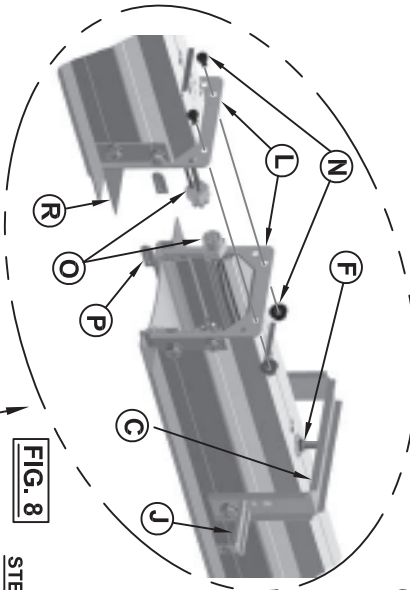
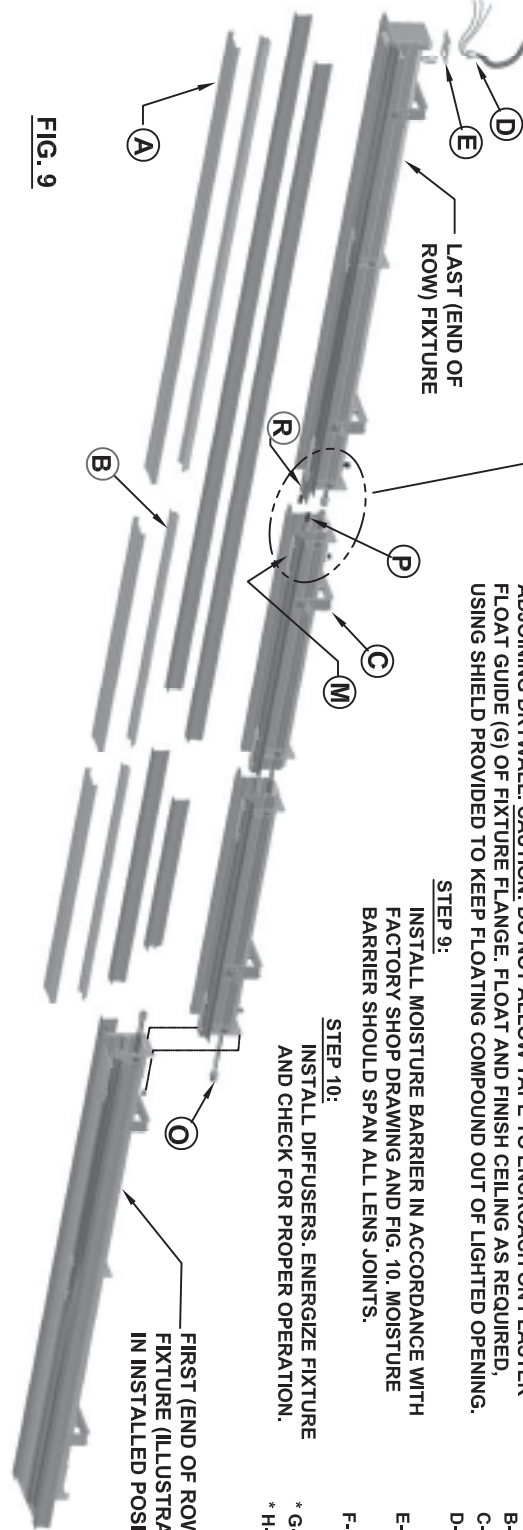

FIG. 8
FIG. 9
- STEP 3: MOUNT NEXT FIXTURE IN A SIMILAR FASHION AS FIRST FIXTURE SUCH THAT THE ALIGNMENT TABS (P) FIT INTO THE FIRST FIXTURE. MAKE CONNECTION OF THE WIRE HARNESS (O) AND PUSH EXCESS WIRE BACK INTO FIXTURE. SLIDE FIXTURES TOGETHER, MAKING SURE THAT WIRE IS NOT PINCHED BETWEEN JOINT, AND BOLT FIXTURES TOGETHER WITH NUTS AND BOLTS (N) SUPPLIED. (REF. FIG. 8)
- STEP 4: REPEAT STEP (3) AS REQUIRED TO COMPLETE ROW AS INDICATED ON FACTORY SHOP DRAWING.
- STEP 5: REMOVE ACCESS PLATE (E) AT LEFT HAND END OF ROW AND PULL FIXTURE LEADS OUT THROUGH OPENING. REMOVE KNOCK-OUT FROM ACCESS PLATE AND INSTALL FLEXIBLE CONDUIT (D) TO ACCESS PLATE. ATTACH GROUND WIRE TO STUD ON INSIDE OF ACCESS PLATE AND MAKE OTHER WIRE CONNECTIONS MAINTAINING COLOR CODING OF WIRES. PUSH EXCESS WIRE INTO FIXTURE HOUSING AND SECURE ACCESS PLATE TO HOUSING ENSURING THAT WIRES ARE NOT PINCHED BETWEEN FIXTURE AND ACCESS PLATE. (REF. FIG. 9)